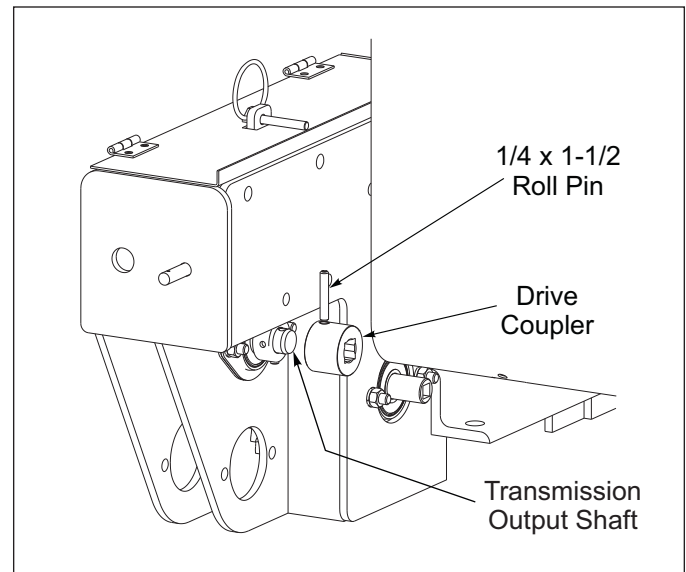

Figure 2-51: Coupling Transmission
4. Install Drive Coupler on Transmission Output Shaft with 1/4" x 1-1/2 Roll Pin. **See Figure 2-51.**